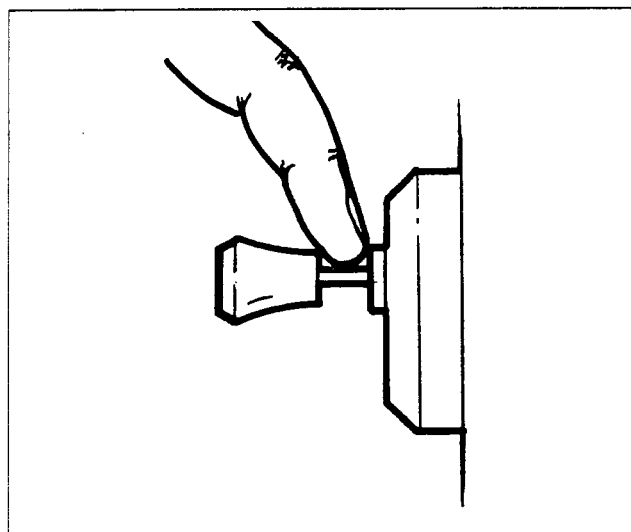

Figure 2. Enrichener Knob 1/2 Way Out
2. See Figure 2. Push the enrichener knob in 1/2 way. Ride another 2 minutes or 2 miles.